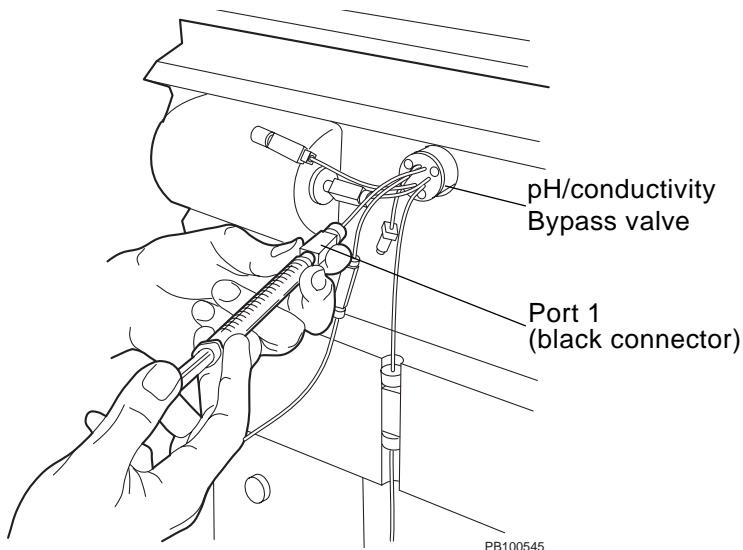

Figure 9-9 Injecting Calibration Solution
3. Using a syringe, inject the first calibration standard (or buffer) through port 1 (black connector) on the Detector Bypass valve (Figure 9-9). Continue injecting until the pH reading in the Status window stabilizes. Click **OK**.
5. Using a syringe, inject the second calibration standard (or buffer) through port 1 (black connector) on the Detector Bypass valve (Figure 9-9). Continue injecting until the pH reading in the Status window stabilizes. Click **OK**.
3. Using a syringe, inject a low calibration standard through port 2 (red connector) on the Detector Bypass valve (see Figure 9-9). Continue injecting until the conductivity reading in the Status Window stabilizes. Click **OK**.
5. Using a syringe, inject a high calibration standard through port 2 (red connector) on the Detector Bypass valve (see Figure 9-9). Continue injecting until the conductivity reading in the Status Window stabilizes. Click **OK**.